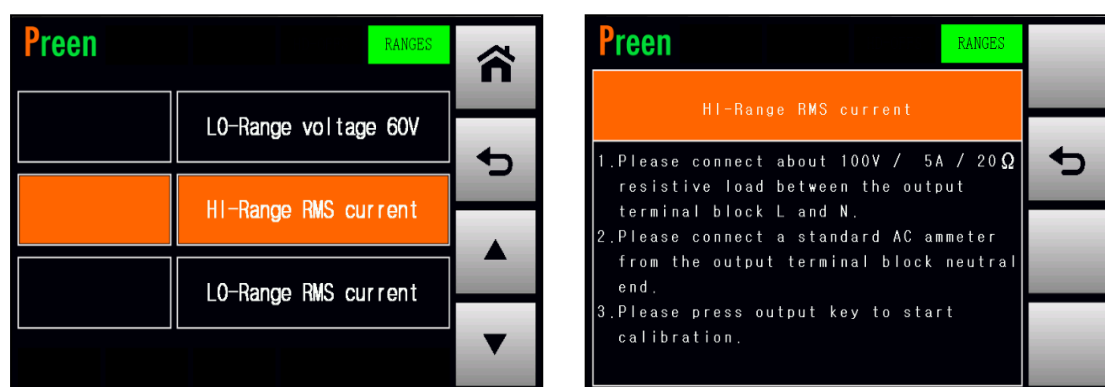

Figure 6.13 Enter the page which calibrates the HI-Range RMS current
1. Press the item HI-Range RMS current repeatedly to enter the page which calibrates the HI-Range RMS current (refer to Figure 6.13).